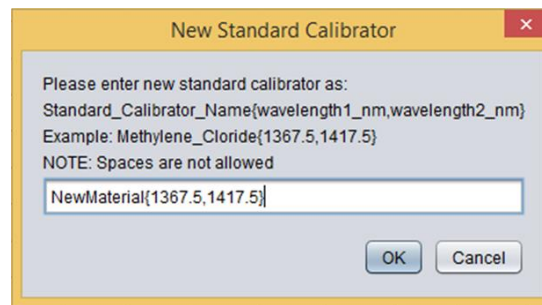

Figure 6.15: Inserting data for a new reference material
4. A new window will pop-up (see Figure 6.15):